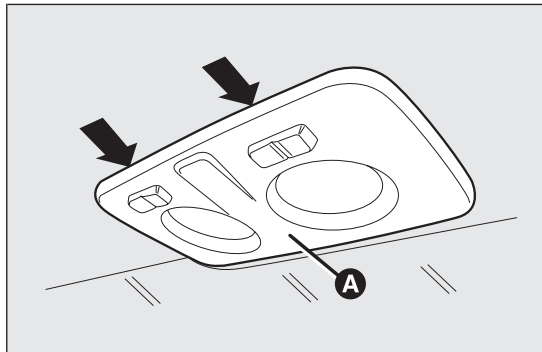
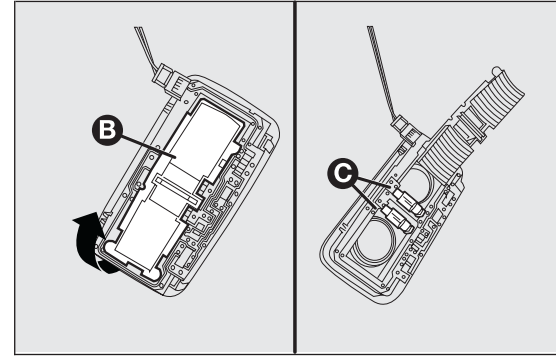

fig. 174
fig. 175
- operate in the points indicated by the arrows and remove light A fig. 174;
- open protective flap B fig. 175;
- close flap B fig. 175 and fix roof light A fig. 174 in its housing, making sure that it locks into place.